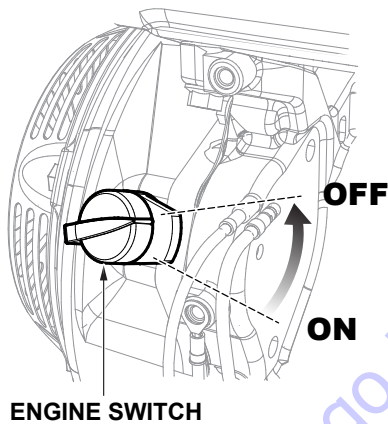

Figure 46. Engine ON/OFF Switch (OFF)
2. Release the handle and place the engine ON/OFF switch in the **OFF** position (Figure 46).